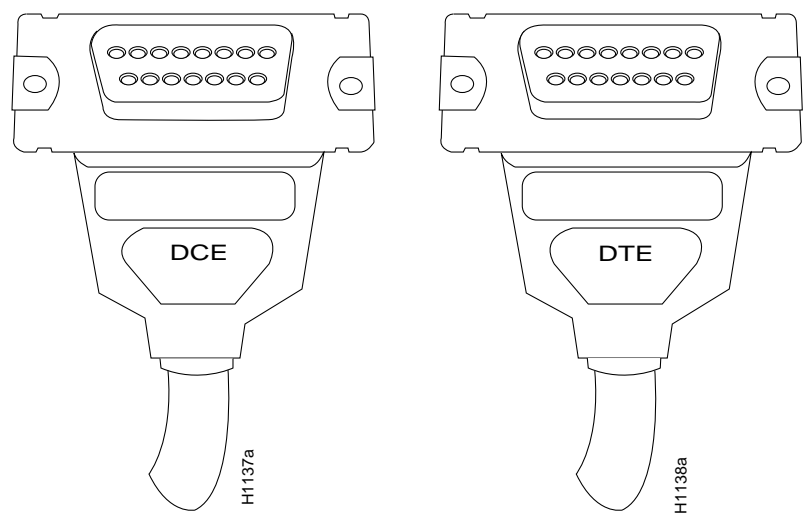

Figure 3-10 X.21 DCE and DTE Connectors
- X.21 DCE and DTE connectors, Figure 3-10
Both ends of the X.21 cable (shown in Figure 3-10) are female and labeled with a DCE or DTE designation.